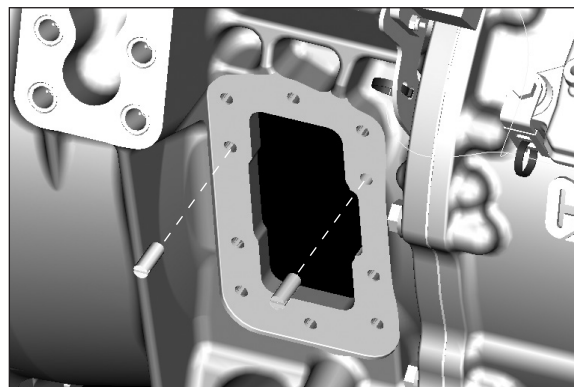

Figure 32
3. Using a screwdriver, install the guide pins until they bottom out (**Fig. 32**) (See page 35).